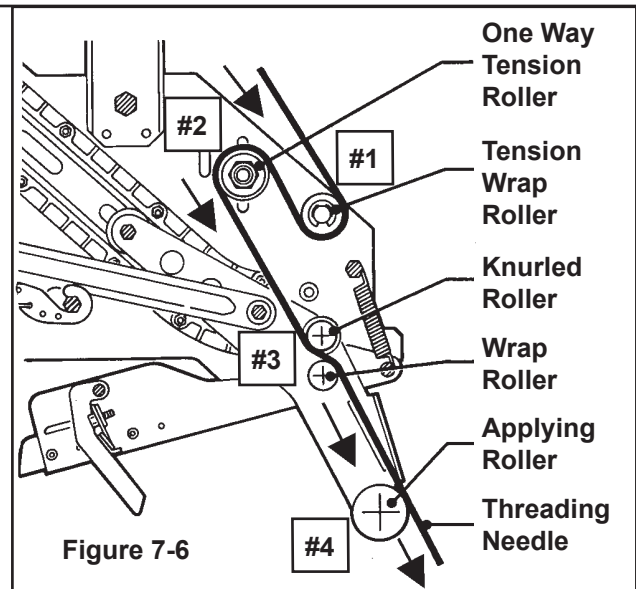

Figure 7-6
2. Use **Figure 7-6** and tape threading label. Position the tape supply roll so the adhesive side of tape is facing the front of the taping head as it is pulled from the supply roll.
4. Continue pulling the threading needle down and guide it between the two (2) rollers on the apply arm (**Position 3**).